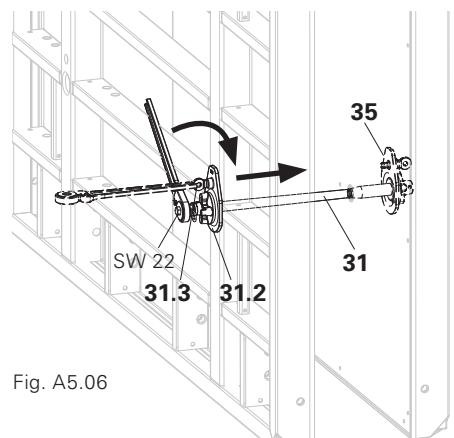

Fig. A5.06
4. Slightly tighten the ring bolt (31.3) by means of the Tie Rod Spanner or scaffold ratchet (57).
- (Fig. A5.06)